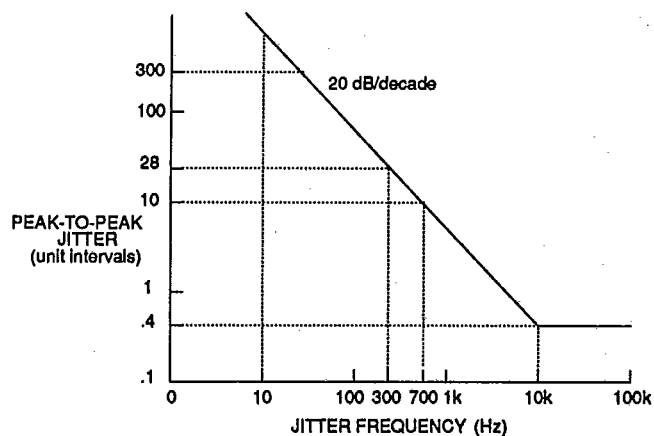

Figure 7. - Input Jitter Tolerance of Receiver
8. See Figure 7.
The leading edge of an incoming data pulse triggers the clock phase selector. The phase selector chooses one of the 13 available phases which the delay line produces for each bit period. The output from the phase selector feeds the clock and data recovery circuits which generate the recovered clock and sample the incoming signal at appropriate intervals to recover the data. The jitter tolerance of the CS6158 meets or exceeds the plot shown in Figure 7.